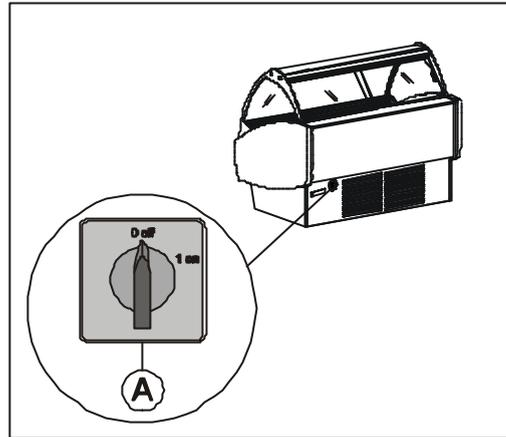

Fig. 9
- 2) Activate the general switch of the display cabinet which you will find on the protection panel on the rear of the display cabinet and position it to “1” (fig. 9 pos. A) activating the electrical supply of the display cabinet.